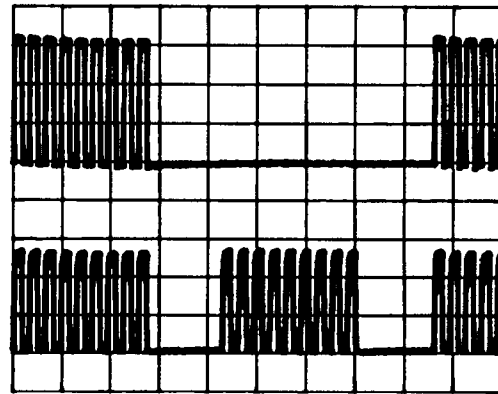

Figure 8-29. A2A11 CLK 2 Test Point
5. Connect channel 2 of the oscilloscope to A2A11 CLK 2. Set the oscilloscope to chop sweep mode to eliminate retrace delays. The waveform should be as shown in figure 8-29.